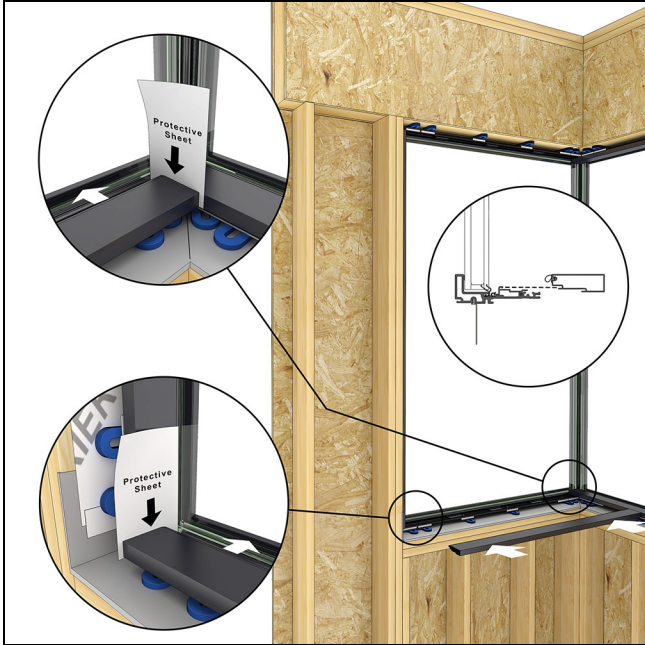

Figure 62 Right hand sill cover
5. Install the right hand sill cover. Insert a sheet of paper or thin plastic to protect the jamb cover and left hand sill cover from getting damaged. See Figure 62.